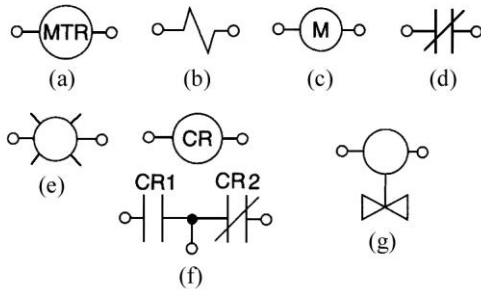

Figure 6-24 Program for question 14.
14. Identify the symbols for the output devices shown in Figure 6-24 from the following list: pilot light, control relay, motor starter coil, OL relay contact, solenoid, solenoid valve, and motor.